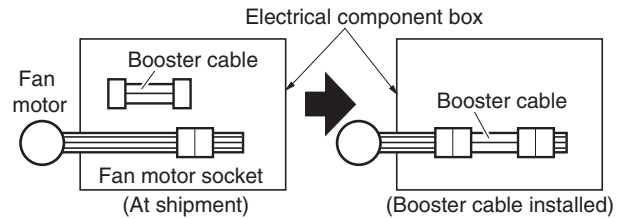

Fig. 1-80
- (1) Remove 4 screws on the electrical component box and remove the cover plate.
- (2) Disconnect the fan motor sockets in the box.
- (3) Take out the booster cable (sockets at both ends) clamped in the box.
- (4) Securely connect the booster cable sockets between the disconnected fan motor sockets in step 2 as shown in the Fig. 1-80.
- (5) Place the cable neatly in the box and reinstall the cover plate.